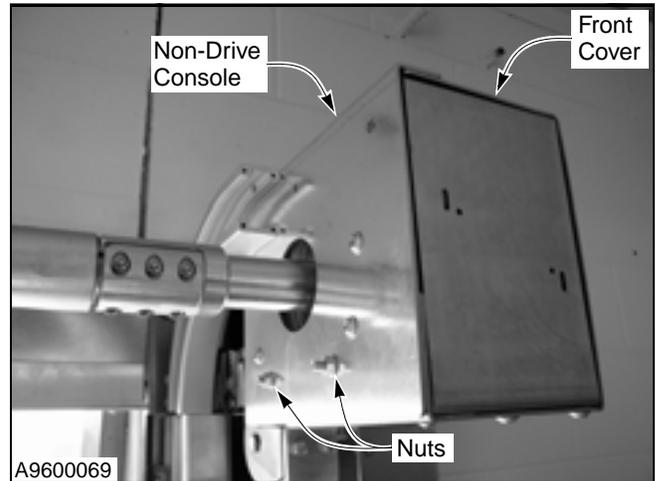

Figure 41
2. Loosen the two nuts on the side of the console. (See Figure 41.)